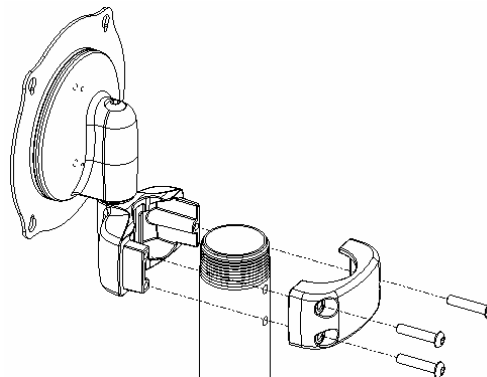

Figure 10
8. Use supplied 1/4-20 x 1.25" Security screws to attach head assembly to pole per JTS installation manual (see figure 10).